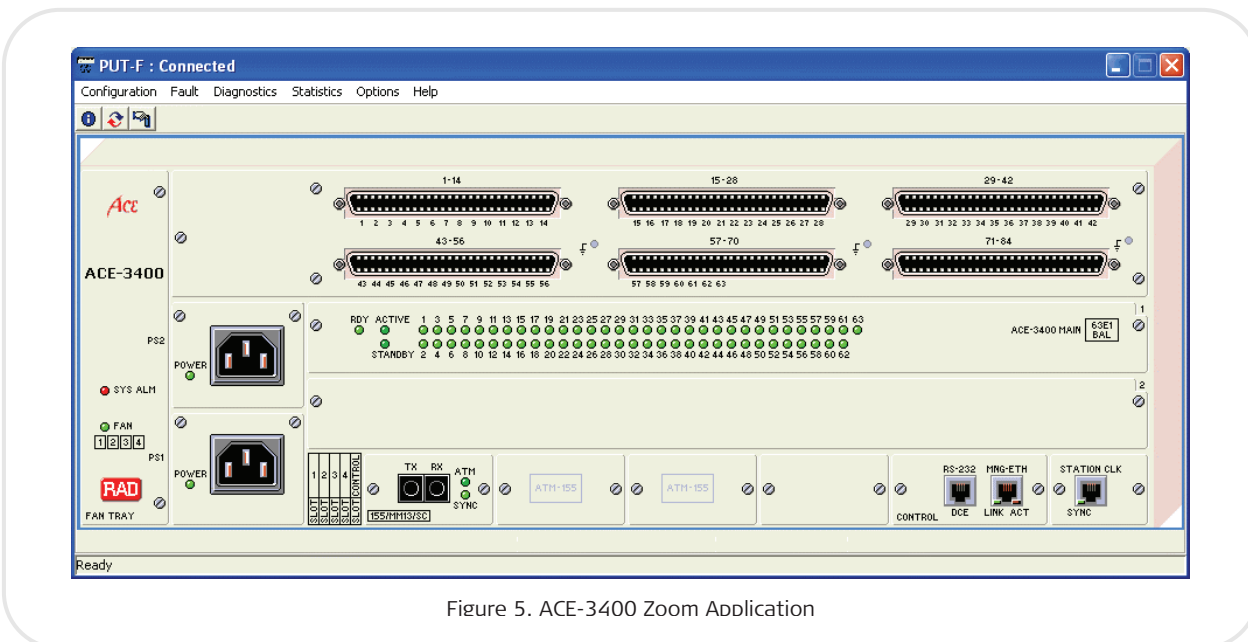

Figure 5. ACE-3400 Zoom Application
- Configuration (provisioning) – configuration of Network Elements (NE) via user-friendly and intuitive GUI zoom applications (see *Figure 5*).
- Zoom applications (see *Figure 5*)